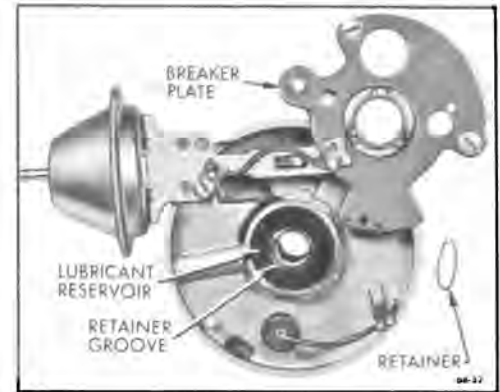

Figure 68-43--Installing Breaker Plate and Retainer
2. Install felt washer over upper bushing and apply a few drops of light oil. Then place breaker plate over upper bushing and vacuum advance link. Install retainer on upper bushing. See Figure 68-43.